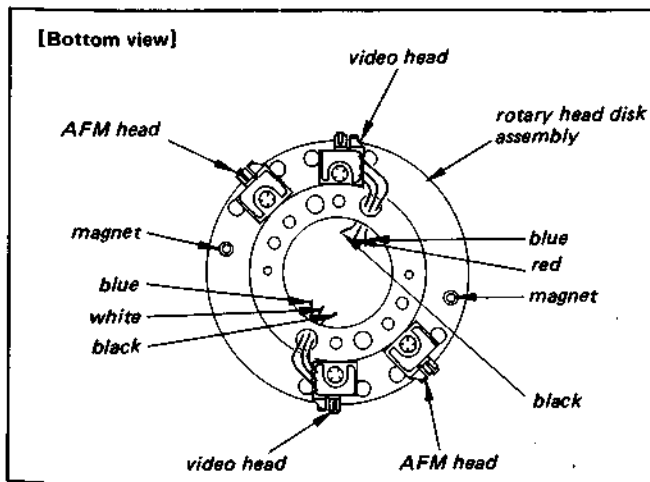

Fig. 3-4 How to refit rotary head disk (1)
- 1) Solder the six leads to the video head of the rotary head disk assembly. (Caution on correct orientation of the magnet.) Thread the leads through the holes (See Fig. 3-4).